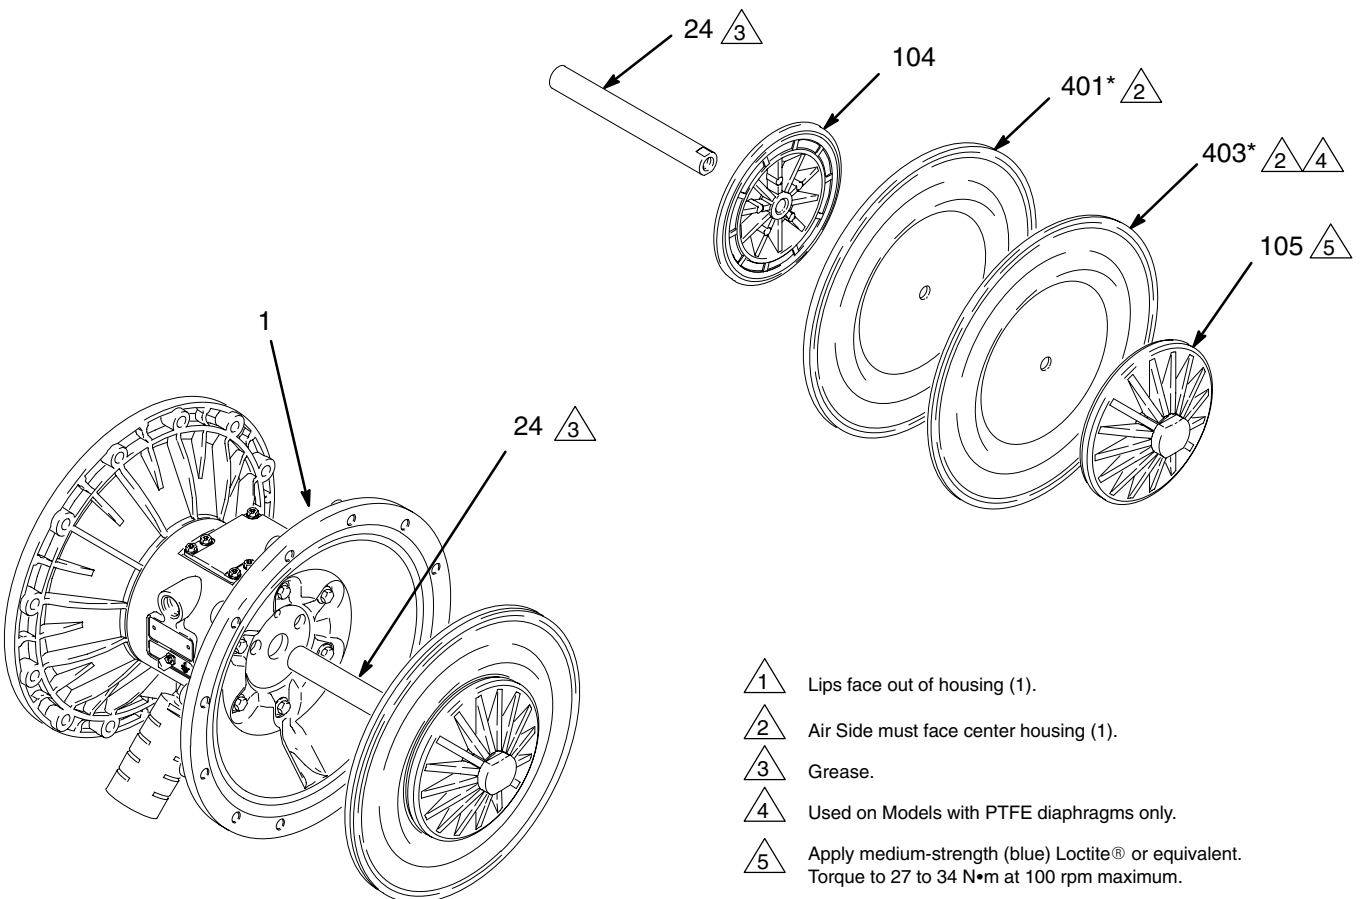
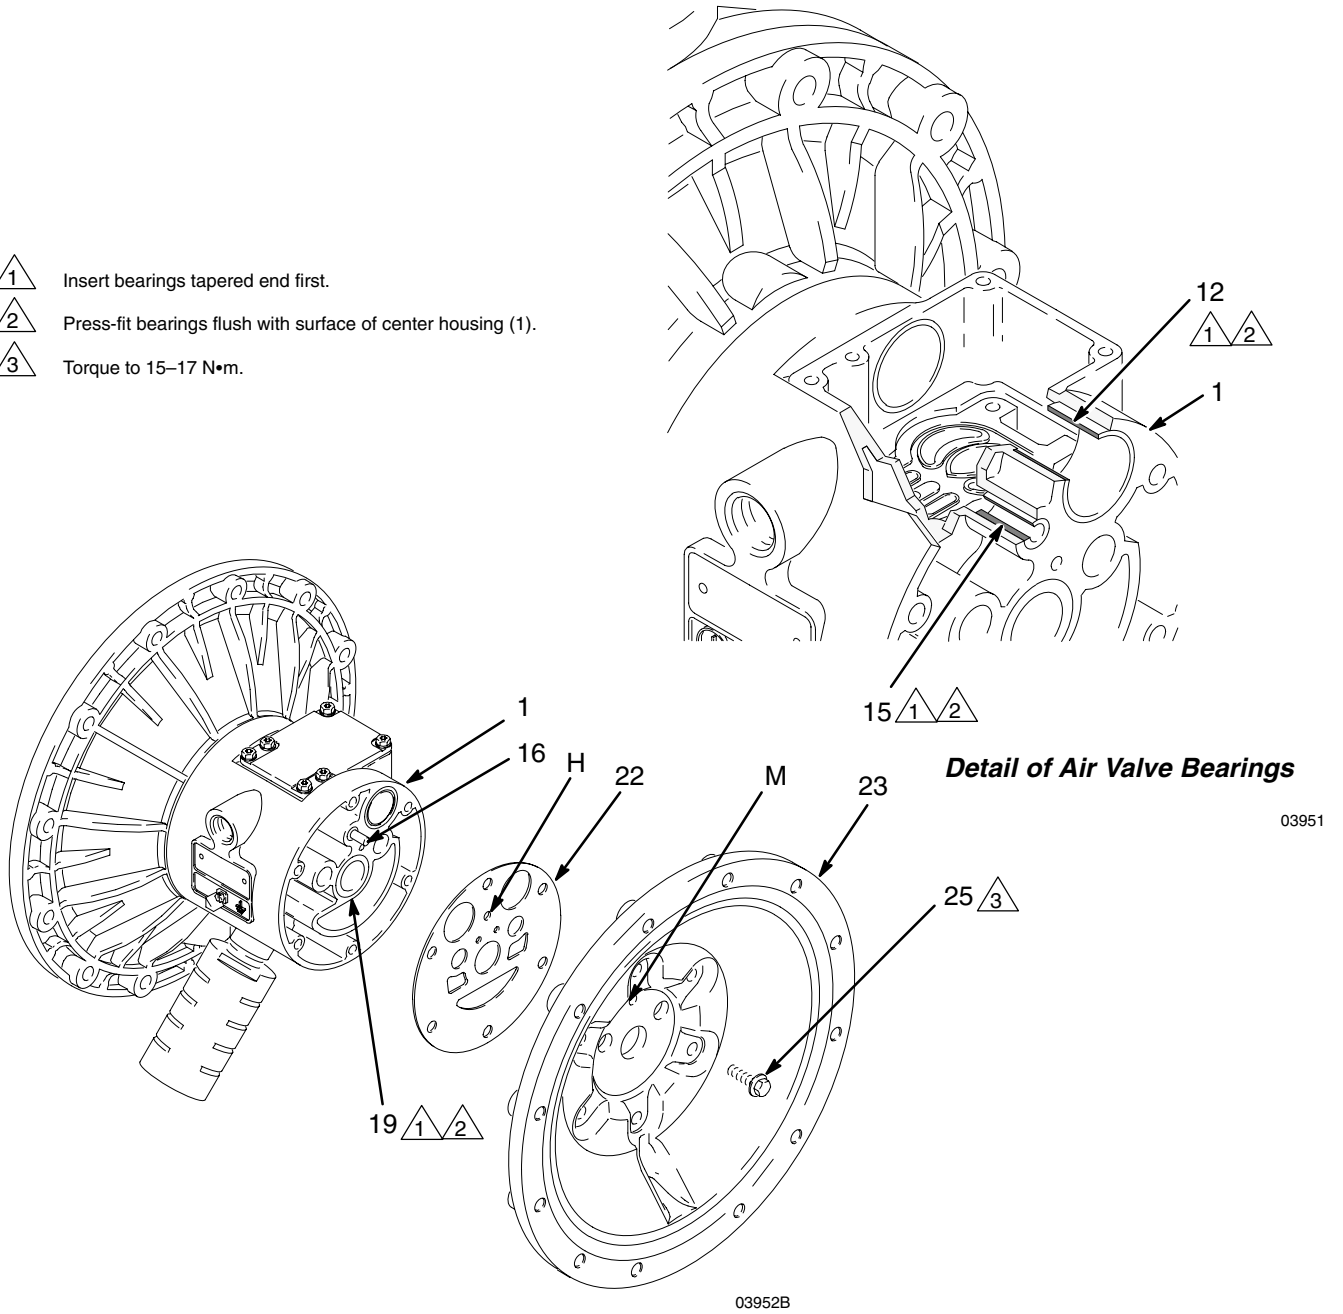

Fig. 13
Fig. 14
4. Unscrew one outer plate (105) from the diaphragm shaft (24). Remove one diaphragm (401), and the inner plate (104). See Fig. 13.
1. Grease the shaft u-cup packings (402*) and install them so the lips face **out** of the housing (1). See Fig. 13.
2. Grease the length and ends of the diaphragm shaft (24) and slide it through the housing (1).
3. Assemble the inner diaphragm plates (104), diaphragms (401*), PTFE diaphragms (403*, if present), and outer diaphragm plates (105) *exactly* as shown in Fig. 13. These parts **must** be assembled correctly.
4. Apply medium-strength (blue) Loctite® or equivalent to the threads of the fluid-side plates (105). Hold one of the outer plates (105) with a wrench and torque the other outer plate to 27 to 34 N•m at 100 rpm maximum. Do not over-torque.
5. Using a 10 mm socket wrench, remove the screws (25) holding the air covers (23) to the center housing (1). See Fig. 14.
6. Remove the air cover gaskets (22). Always replace the gaskets with new ones.
7. Use a bearing puller to remove the diaphragm shaft bearings (19), air valve bearings (12) or pilot pin bearings (15). Do not remove undamaged bearings.
8. If you removed the diaphragm shaft bearings (19), reach into the center housing (1) with an o-ring pick and hook the u-cup packings (402), then pull them out of the housing. Inspect the packings. See Fig. 13.
1. If removed, install the shaft u-cup packings (402*) so the lips face **out** of the housing (1).
2. The bearings (19, 12, and 15) are tapered and can only be installed one way. Insert the bearings into the center housing (1), **tapered end first**. Using a press or a block and rubber mallet, press-fit the bearing so it is flush with the surface of the center housing.
4. Align the new air cover gasket (22) so the pilot pin (16) protruding from the center housing (1) fits through the proper hole (H) in the gasket.
5. Align the air cover (23) so the pilot pin (16) fits in the middle hole (M) of the three small holes near the center of the cover. Install the screws (25), handtight. See Fig. 14. Using a 10 mm socket wrench, torque the screws oppositely and evenly to 15–17 N•m.